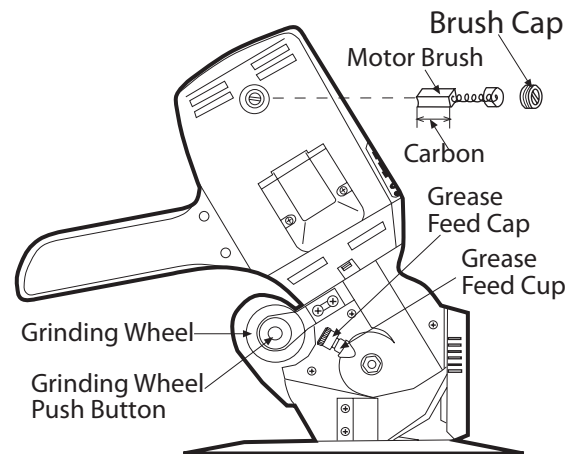

Figure 2. 4" Rotary Cutter Rear View
3. Sharpen the blade by turning the switch on and pushing the grinding wheel push button as shown in Figure 2 with constant pressure for 10 seconds. The pressure should be large enough to keep the grinding wheel in continuous contact with the blade to obtain a sharp and uniform cutting edge. Try a piece of scrap fabric to clean the blade. Repeat this operation if the blade is not sharp enough.
2. Unthread the grease feed cap off and inject a small amount of grease into the grease feed cup after every 50 hours use (see Figure 2).
If the motor does not run well, you may need to change the motor brushes, **Stk#DT47/C**. Motor brushes must be replaced when the carbon length is less than 1/4" as shown in Figure 2.
- Unscrew brush cap (see Figure 2) to take out the worn motor brush.